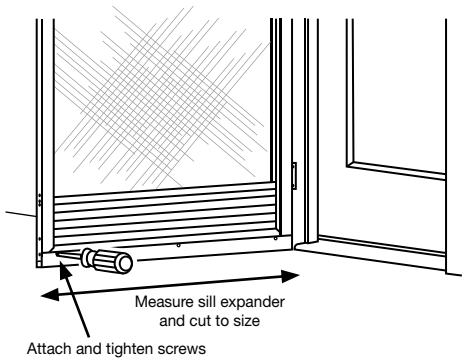

Fig. 9
Temporarily tape sill channel expander in place with masking tape. Mark and pre-drill (3) sill channel expander attachment holes as indicated on interior side using 1/8" drill bit. Secure with #8 x 3/8" screws provided (**Fig. 9**).